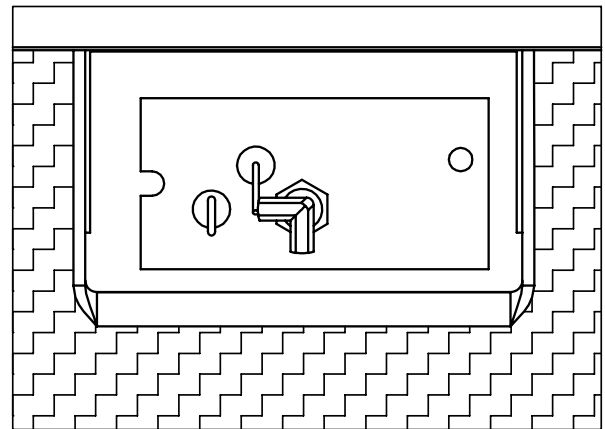

Figure 24. Correct Pilot
8. Reinstall the burner, tray, glass media, and glass door. Also refer to **SECONDARY INSTALLATION - FIREBOX LINER AND BURNER TRAY REMOVAL** section. When re-installing the burner, ensure that the burner to pilot hood relationship is similar to what is shown in Figure 24.